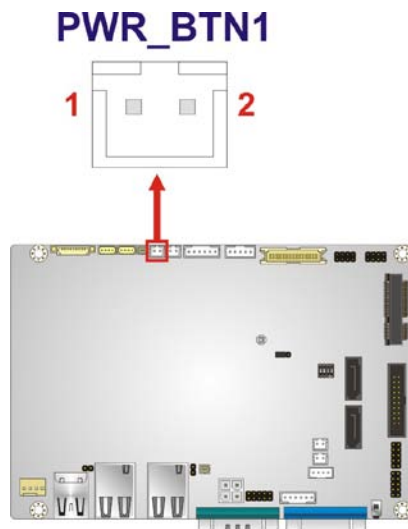

Figure 3-19: Power Button Connector Location
- CN Location: See **Figure 3-19**